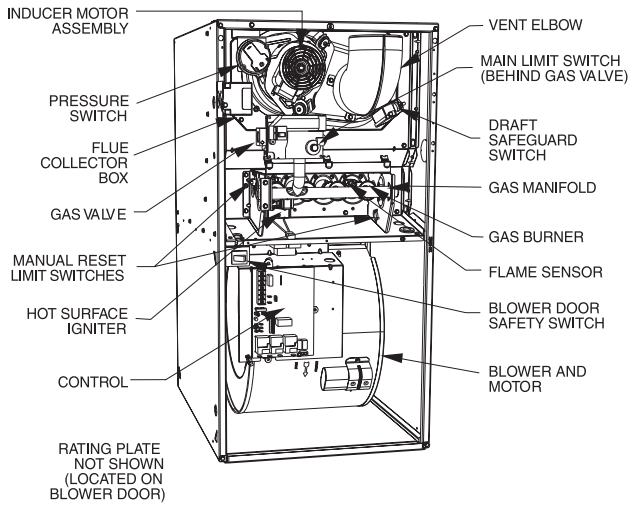

Fig. 2 - Component Location
NOTE: See Fig. 2 for component location in UPFLOW orientation. Reorient component arrangement when furnace is installed in other positions.
8. Swing out manifold from burners then pull manifold out of right side of burner box. (See Fig. 2)